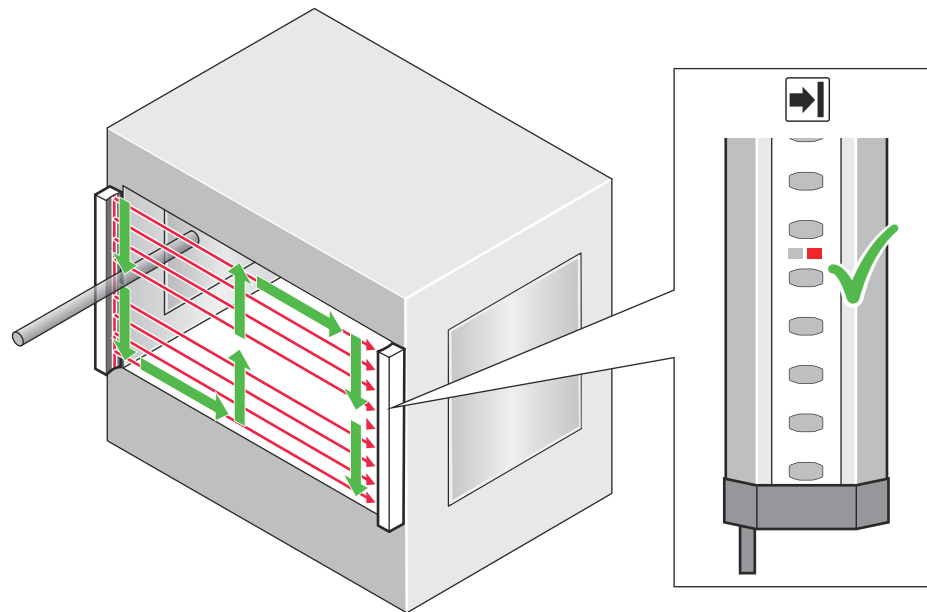

Figure 20: Test rod check: Step 1
1. Move the test rod slowly through the area to be protected (e.g., machine opening), as indicated by the arrow, see figure 20, page 30.